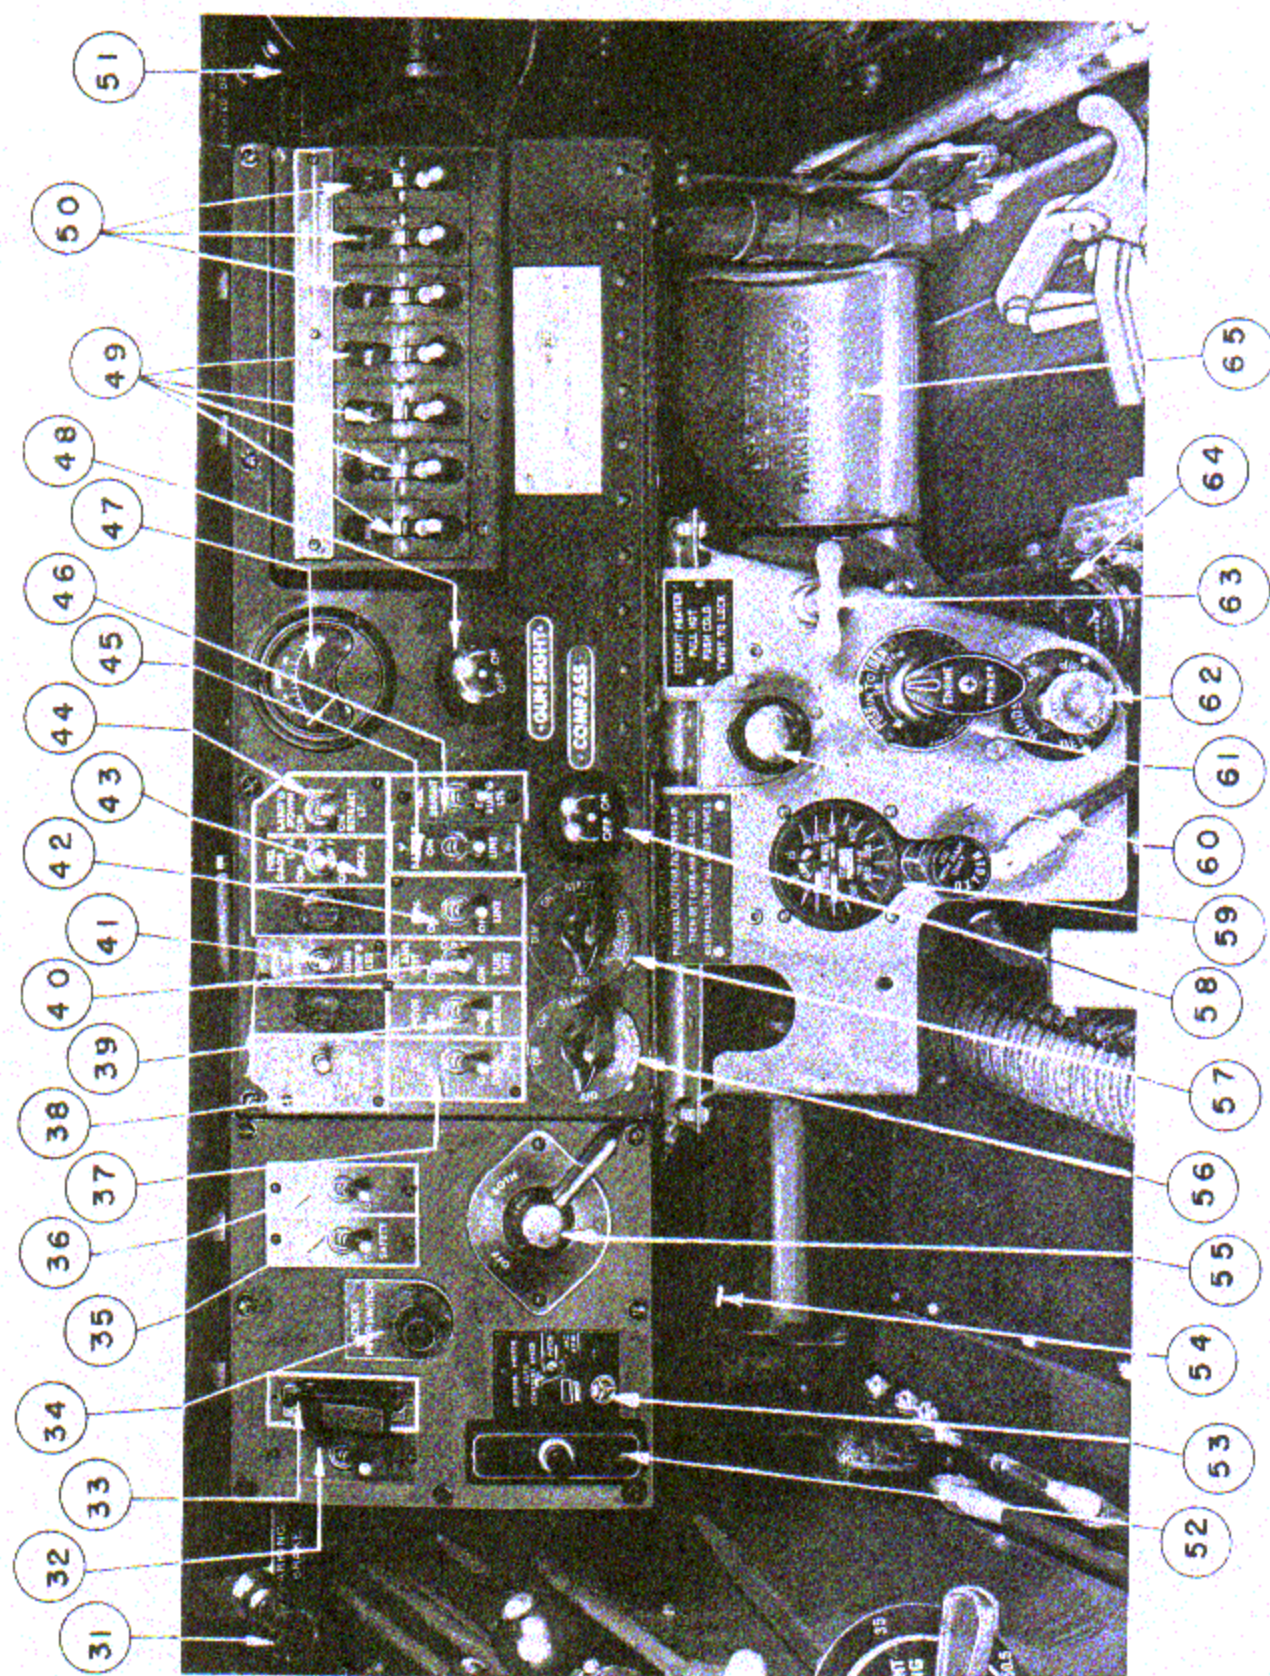
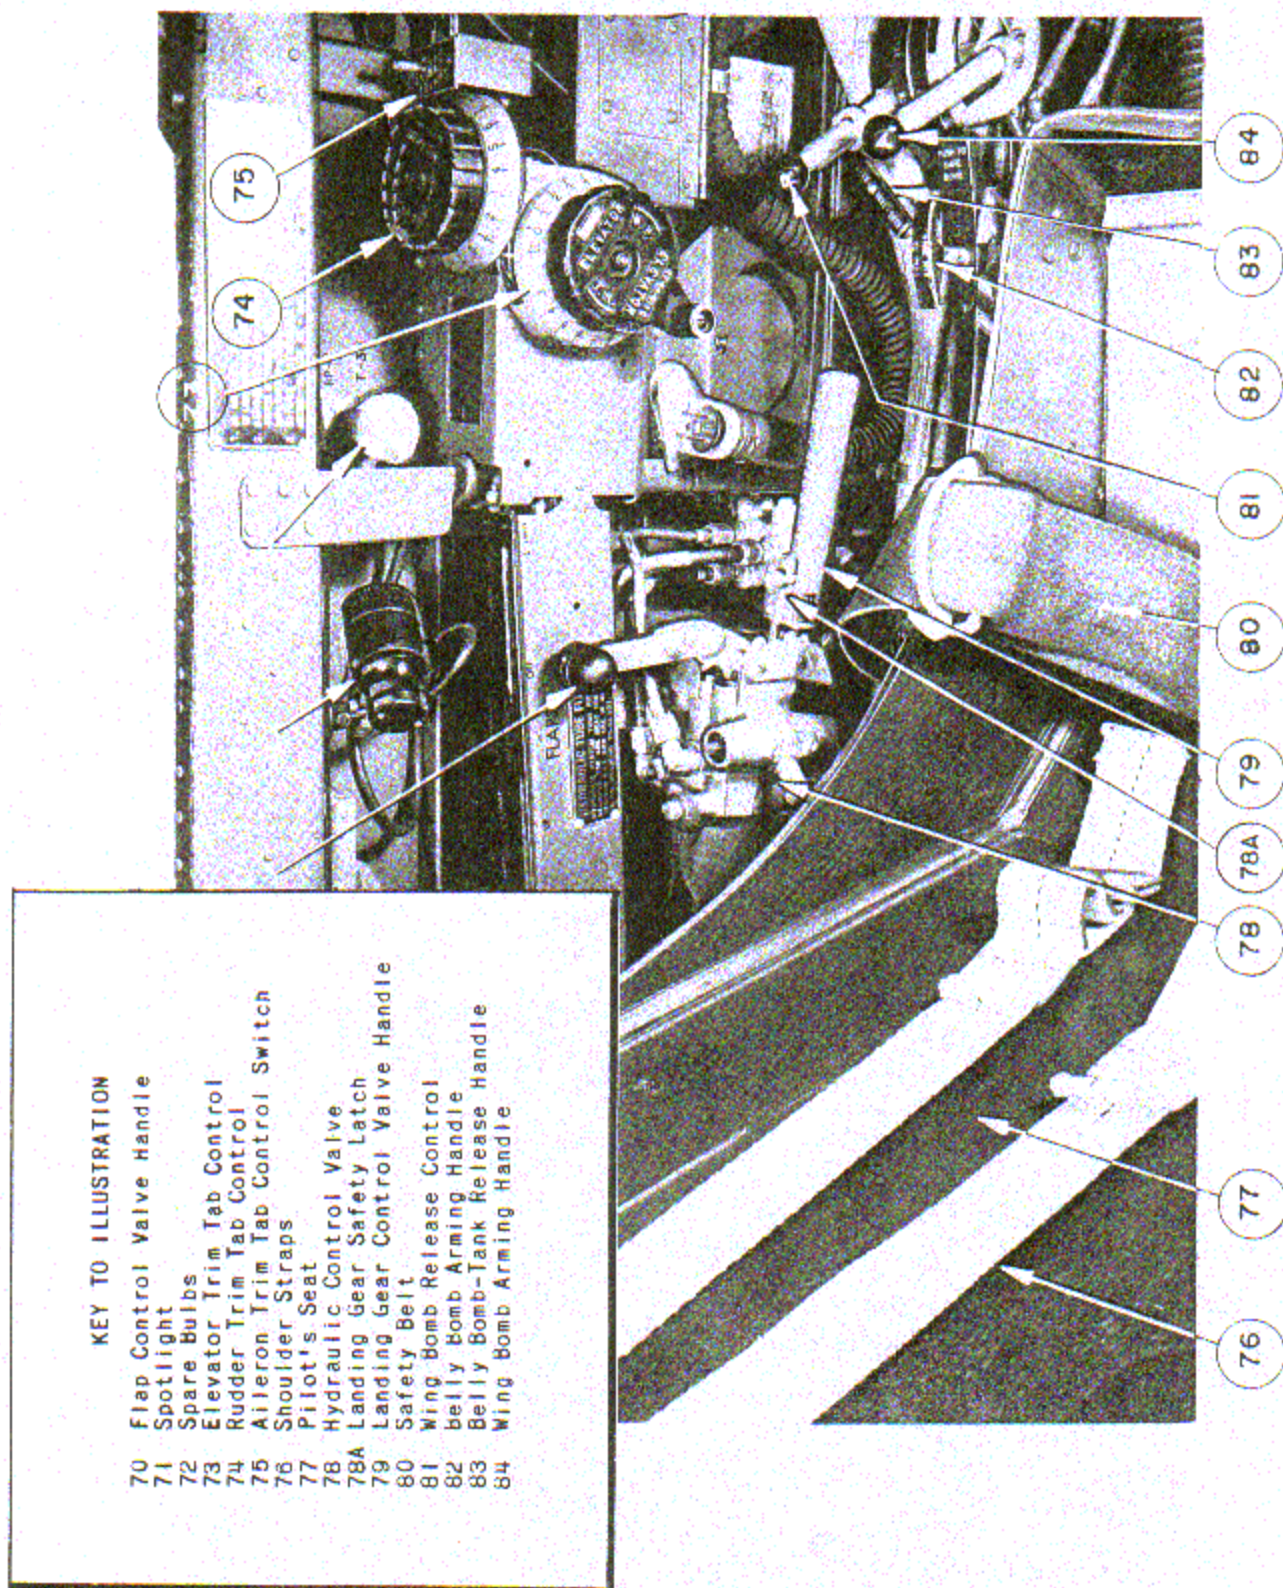
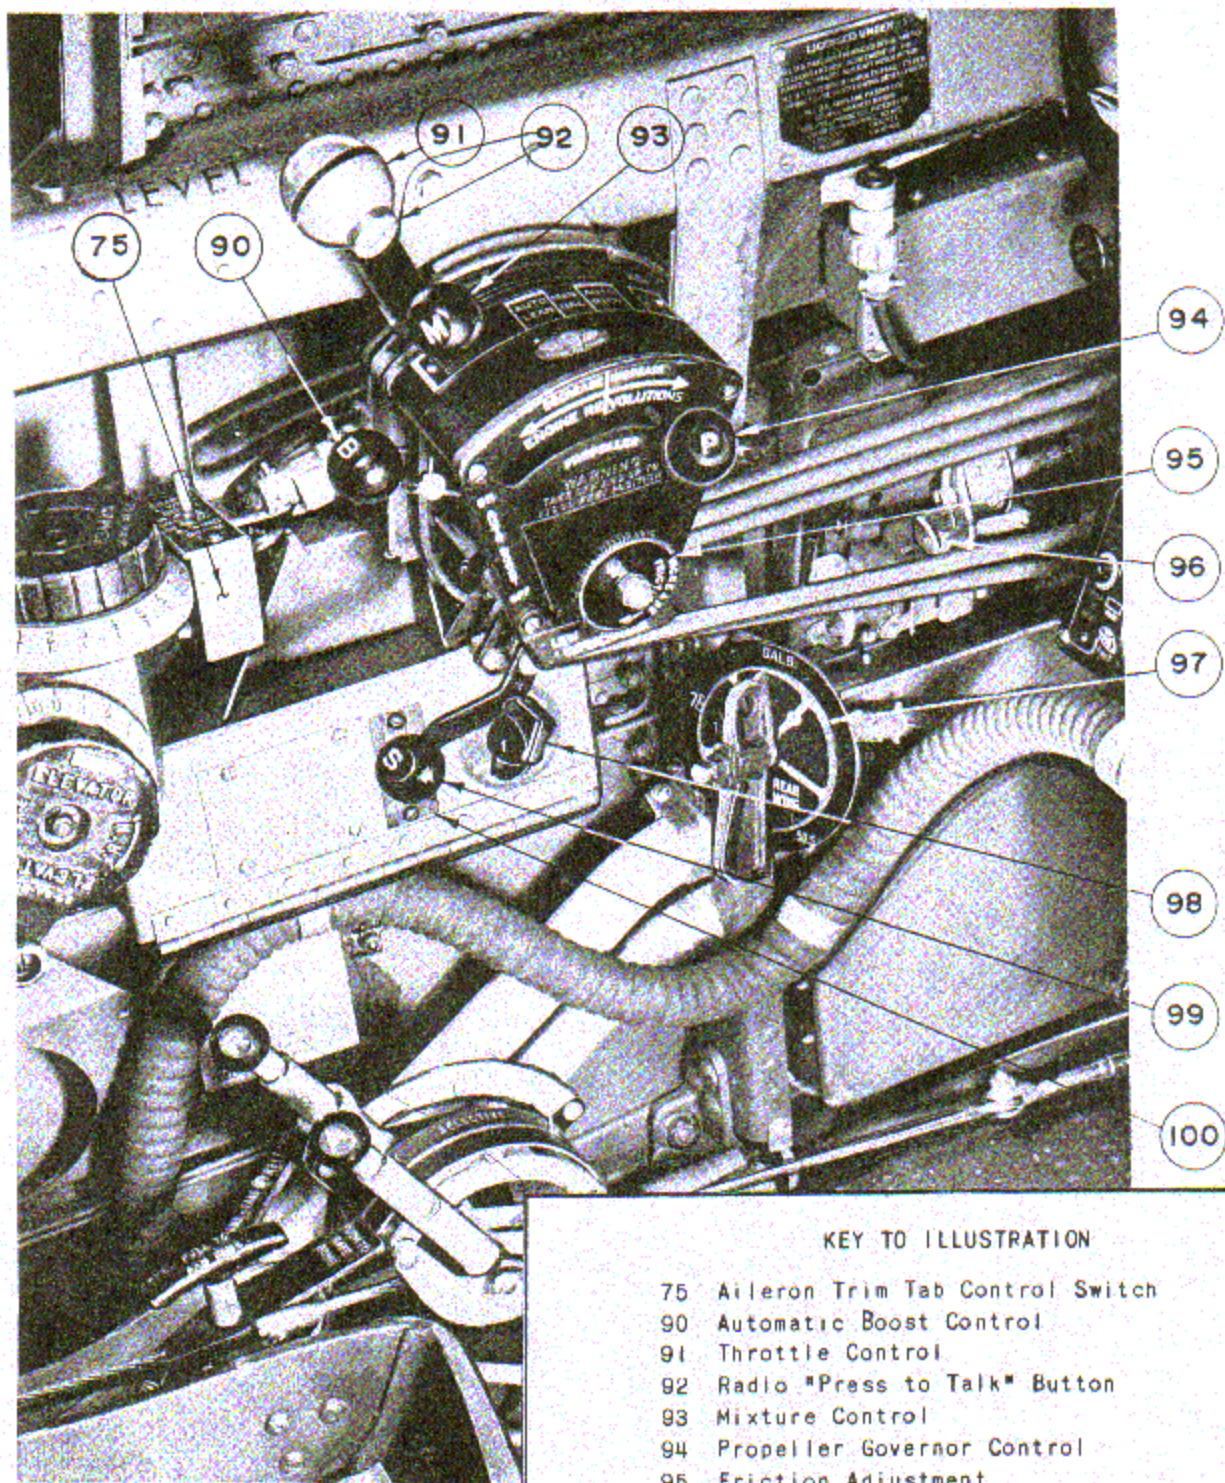

Figure 9 - Main Electrical Switch Panel
Figure 10 - Cockpit - Left Side - Rear
Figure 11 -
(1) Turn battery line switch (figure 9) "ON."
(2) Turn the two cockpit spotlight control knobs on the main switch panel to "START" and hold them in this position for a few seconds until the lights illuminate. Then turn the knobs to the left until the desired intensity of illumination is obtained. The knurled caps which contain the lenses, control the emittance of either visible or ultraviolet light by each 90-degree rotation. The spotlight bases are located as follows:
(3) Test operate the compass light's brilliancy by turning the rheostat control knob (figure 9) clockwise.
(4) Turn the wing tank fuel gage lights "ON." (See figure 9.)
(5) Test operate the running lights.
(b) For airplanes AC-41-13950 and up: Test operate the wing tip running lights switch (figure 9), and the tail running lights switch (figure 9) on "DIM" and on "BRIGHT."
(6) Test operate the landing light for not over 5 seconds. (See figure 9.) When the switch is turned "ON" the light will not glow until after the landing light mechanism has extended the lamp to its operating position.
(7) Test operate the gun sight light. (See figure 9.) Turn the gun sight rheostat clockwise to test the intensity of the light.
(8) A damped rate control handle is located on the right of the cockpit floor between the two hydraulic hand pumps. This handle controls the automatic recognition device mounted in the top of the fuselage forward of station No. 10 bulkhead. When the damped rate control handle is pulled up and then released, the automatic recognition device will eject a flare through an opening in the fuselage skin. The automatic recognition device contains six flares.
(1) Ignition switch "OFF." (See figure 9.)
(2) Battery line switch "ON." (See figure 9.)
(3) Gun safety switch "OFF." (See figure 9.)
(4) Test the cooling system warning light. (See figure 9.) Hold the toggle of the warning light test switch (figure 9) to the up "ON" position and observe if the warning light illuminates.
(5) Test the fuel pressure warning light. (See figure 9.) When the battery line switch is "ON," the warning light should be illuminated. With the mixture control (figure 11) in "IDLE CUT-OFF" operate the electric fuel pump switch (figure 9) and note if the warning light is extinguished when the fuel pressure exceeds approximately 12 pounds per square inch.
(6) Test operate the cowl flap control box. Throw the circuit breaker located in the top of the control
(7) For airplanes AC-41-13600 to AC-41-13944, inclusive, and for airplane AC-41-13998: gun charger valve handles matched with the red markers on the panel and in their out position.
(8) Landing gear control handle "NEUTRAL." (See figure 10.) A small locking device (figure 10) projecting from the top side of the control handle must be held in its "FORWARD" position to permit movement of the control handle upward. The handle can be moved downward without operating the locking device.
(9) Flap control handle "NEUTRAL." (See figure 10.)
(10) Wheelbrakes on. Depress the brake treadles and pull out on the parking brake knob. (See figure 9.)
(11) A general observation of the cockpit must indicate all component parts in place and in perfect operating order.
(12) Check for freedom of movement of the flight control stick and rudder pedals (figure 9) to the extremities of their operating range.
(13) Adjust the rudder pedals to the desired position by pushing inboard on the spring-loaded adjustment lock (figure 9) which will allow the rudder pedal to float free on its hinge. Move the pedal to the desired location and release the spring-loaded lock. "Juggle" the pedal slightly to allow the locking pin to snap into position. Adjust both pedals to the same length.
(14) The cockpit seat may be adjusted for height by lifting the lock release handle on the right side of the seat and raising or lowering the seat as desired. To lock the seat in position, release the locking handle and "juggle" the seat slightly in a vertical direction until the spring-loaded locking device definitely snaps into position. After the seat has been properly adjusted check to be sure that the rear-view mirror at the top of the windshield frame affords a clear view aft. The mirror in the fairing may be adjusted by simply tilting it by hand to the correct angle.
(15) The two ends of the pilot's safety belt (figure 10) are anchored to the cockpit seat and will not require readjustment if the seat is moved. The
(16) The chest type shoulder strap (figure 10) is bolted to the bungee assembly on the back of the seat and the free ends are fastened to the safety belt and may be adjusted the same as the safety belt to fit the individual needs of the pilot. The raising or lowering of the pilot's seat will not affect the adjustment of the shoulder straps.
(17) Check to see if the two spare bulbs forward of station No. 4 bulkhead are secure in place. The top spare bulb is a replacement for the fuel pressure or coolant warning light on the instrument panel or the propeller warning light located on the left of the main control switch panel. The lower bulb is a spare for the cockpit spotlights.
a. Be certain that the ignition switch (figure 9) is "OFF."
b. If the engine has been idle for more than 2 hours turn the propeller at least four complete revolutions by hand with the throttle (figure 10) open before using the starter. (See figure 9.)
c. Be certain the carburetor air heat control (figure 9) is pushed all the way in and locked in the cold air position to avoid possible damage to the induction system if the engine should backfire.
d. Throw the toggle of the battery line switch "ON." (See figure 9.)